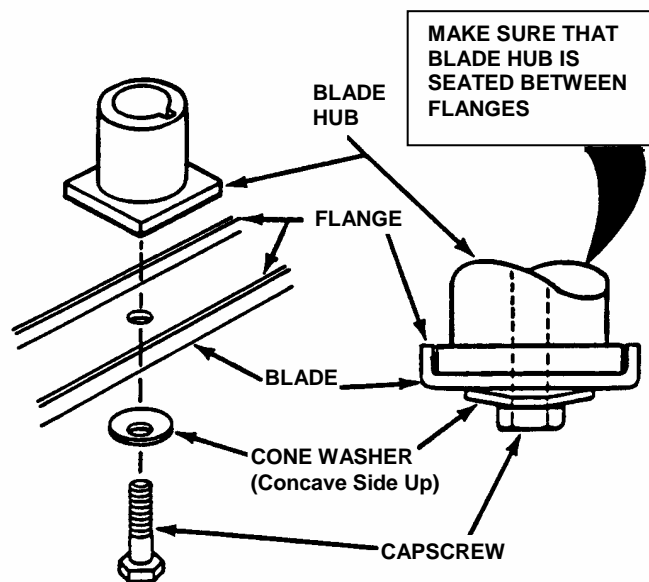

FIGURE 4.3
3. Remove blade. See Figure 4.3.
6. Reinstall blade. See Figure 4.3. Check torque of blade retaining cap screw. Recommended torque should be 30 to 40 ft. lbs.